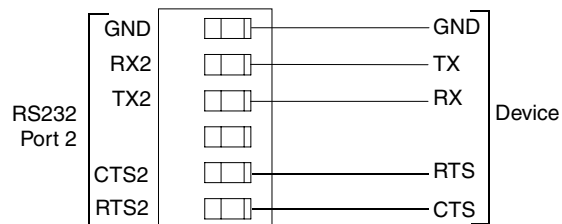

FIG. 6 RS-232 Port 2 wiring for hardware handshaking
3. Configure the AXB-EM232 for hardware handshaking (request to send, clear to send) by connecting the RS-232 wiring to Port 2, as shown in FIG. 6.